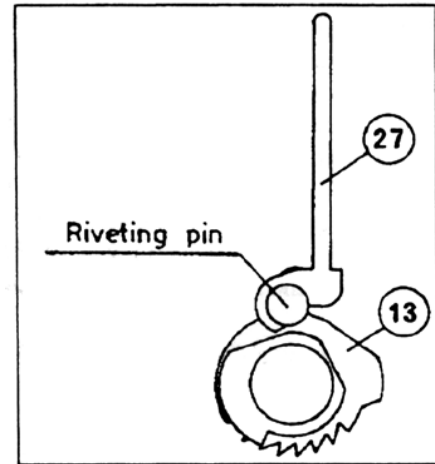

Figure 57
- Place hooked end of *compression rod* (27) onto *compression rod anvil* of the *counting wheel* (13) (Fig. 57)